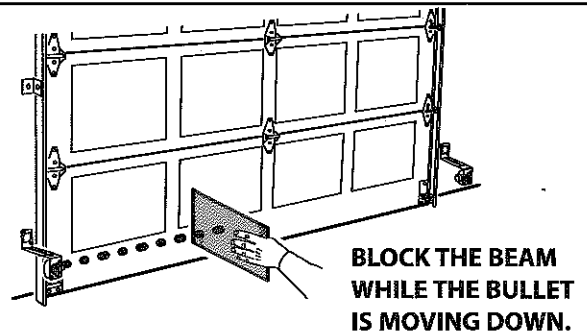

Figure 6 Block the beam
- Block the Safe-T-Beam® while the bullet is moving toward the door (Figure 6).